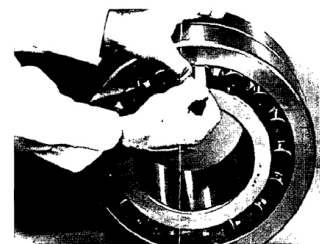

Figure 1 - Internal Clearance
2. Measure the internal clearance of the bearing before mounting. Place the bearing in an upright position as shown in Figure 1. Seat the inner ring and roller elements by pressing down firmly on the inner ring bore while rotating the inner ring a few times. Position the roller assemblies so that a roller is at the top most position on either side. For bore sizes above 135 mm only, press these top rollers inward ensuring contact with the center guide ring. Using a feeler gauge measure the clearance for each side by inserting as far as possible and sliding over top of roller (Figure 1). Write down the measured clearance for use in Step 3e.
- Measure the internal clearance of the bearing before mounting. Place the bearing in an upright position as shown in Figure 1. Seat the inner ring and roller elements by pressing down firmly on the inner ring bore while rotating the inner ring a few times. Position the roller assemblies so that a roller is at the top most position on either side. Using a feeler gauge measure the clearance for each side by inserting as far as possible and sliding over top of roller (Figure 1). Write down the measured clearance and compare with specifications Table 3. Note: Do not rotate bearing when moving feeler between roller and outer ring.